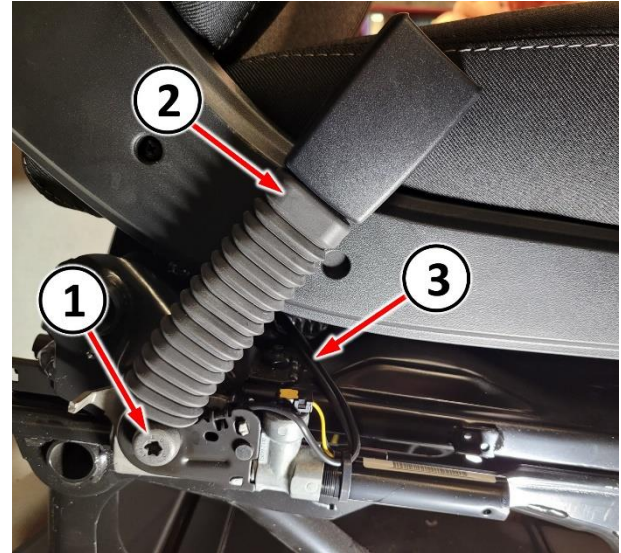

Figure 6 – Buckle Assembly
14. Remove the screw (1) that secures the seat belt buckle (2) lower anchor to the guide at the back of the inboard seat track (Figure 6).
15. Remove the buckle and tensioner (2) from the seat as a unit while passing the wire harness (3) through the seat frame (Figure 6).
17. Obtain the **NEW** buckle assembly then pass the wire harness (3) through the seat frame (Figure 6).
20. Install the screw (1) that secures the seat belt buckle (2) lower anchor to the guide at the back of the inboard seat track. Tighten the screw to 40 N·m (30 Ft. Lbs.) (Figure 6).